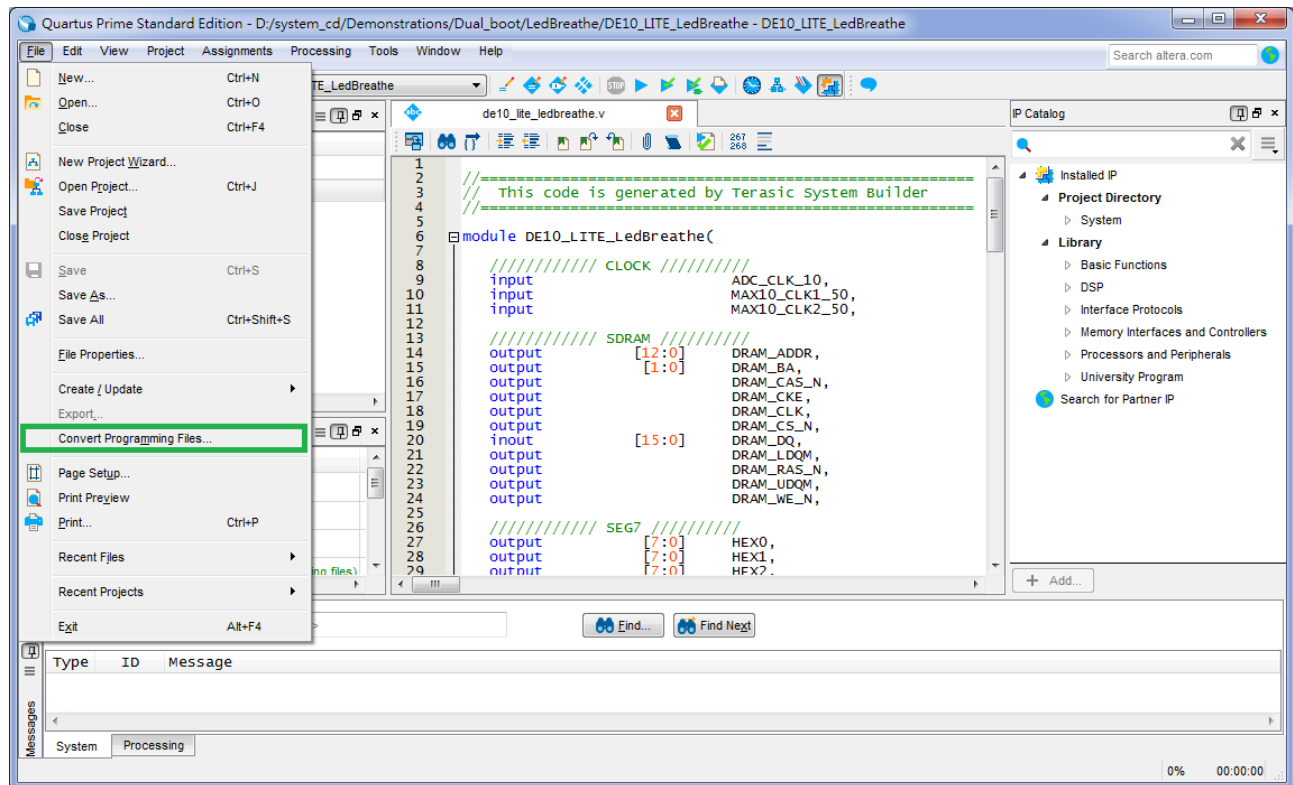

Figure 6-13 Select Convert Programming Files and click
1. Choose **Convert Programming Files** from the File menu of Quartus II to open new window, as shown in **Figure 6-13**.